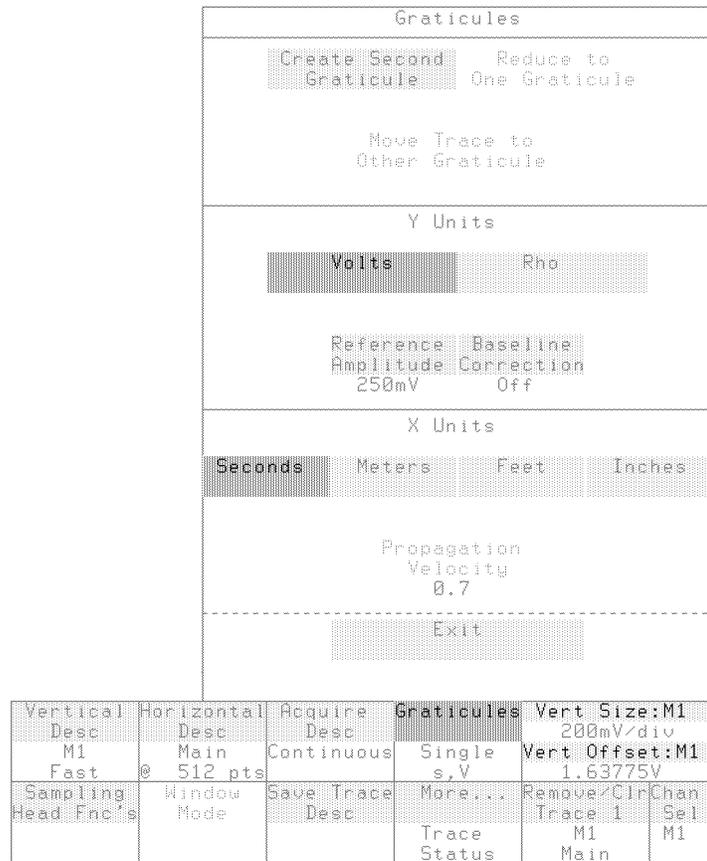

**Figure 14: TDR Step and Reflection**
- Step 7:** Adjust the display sizes and positions to show a trace similar to that shown in Figure 14. You can also use AUTOSET and the vertical ( $\updownarrow$ ) and horizontal ( $\leftrightarrow$ ) icons to perform the fine adjustments.